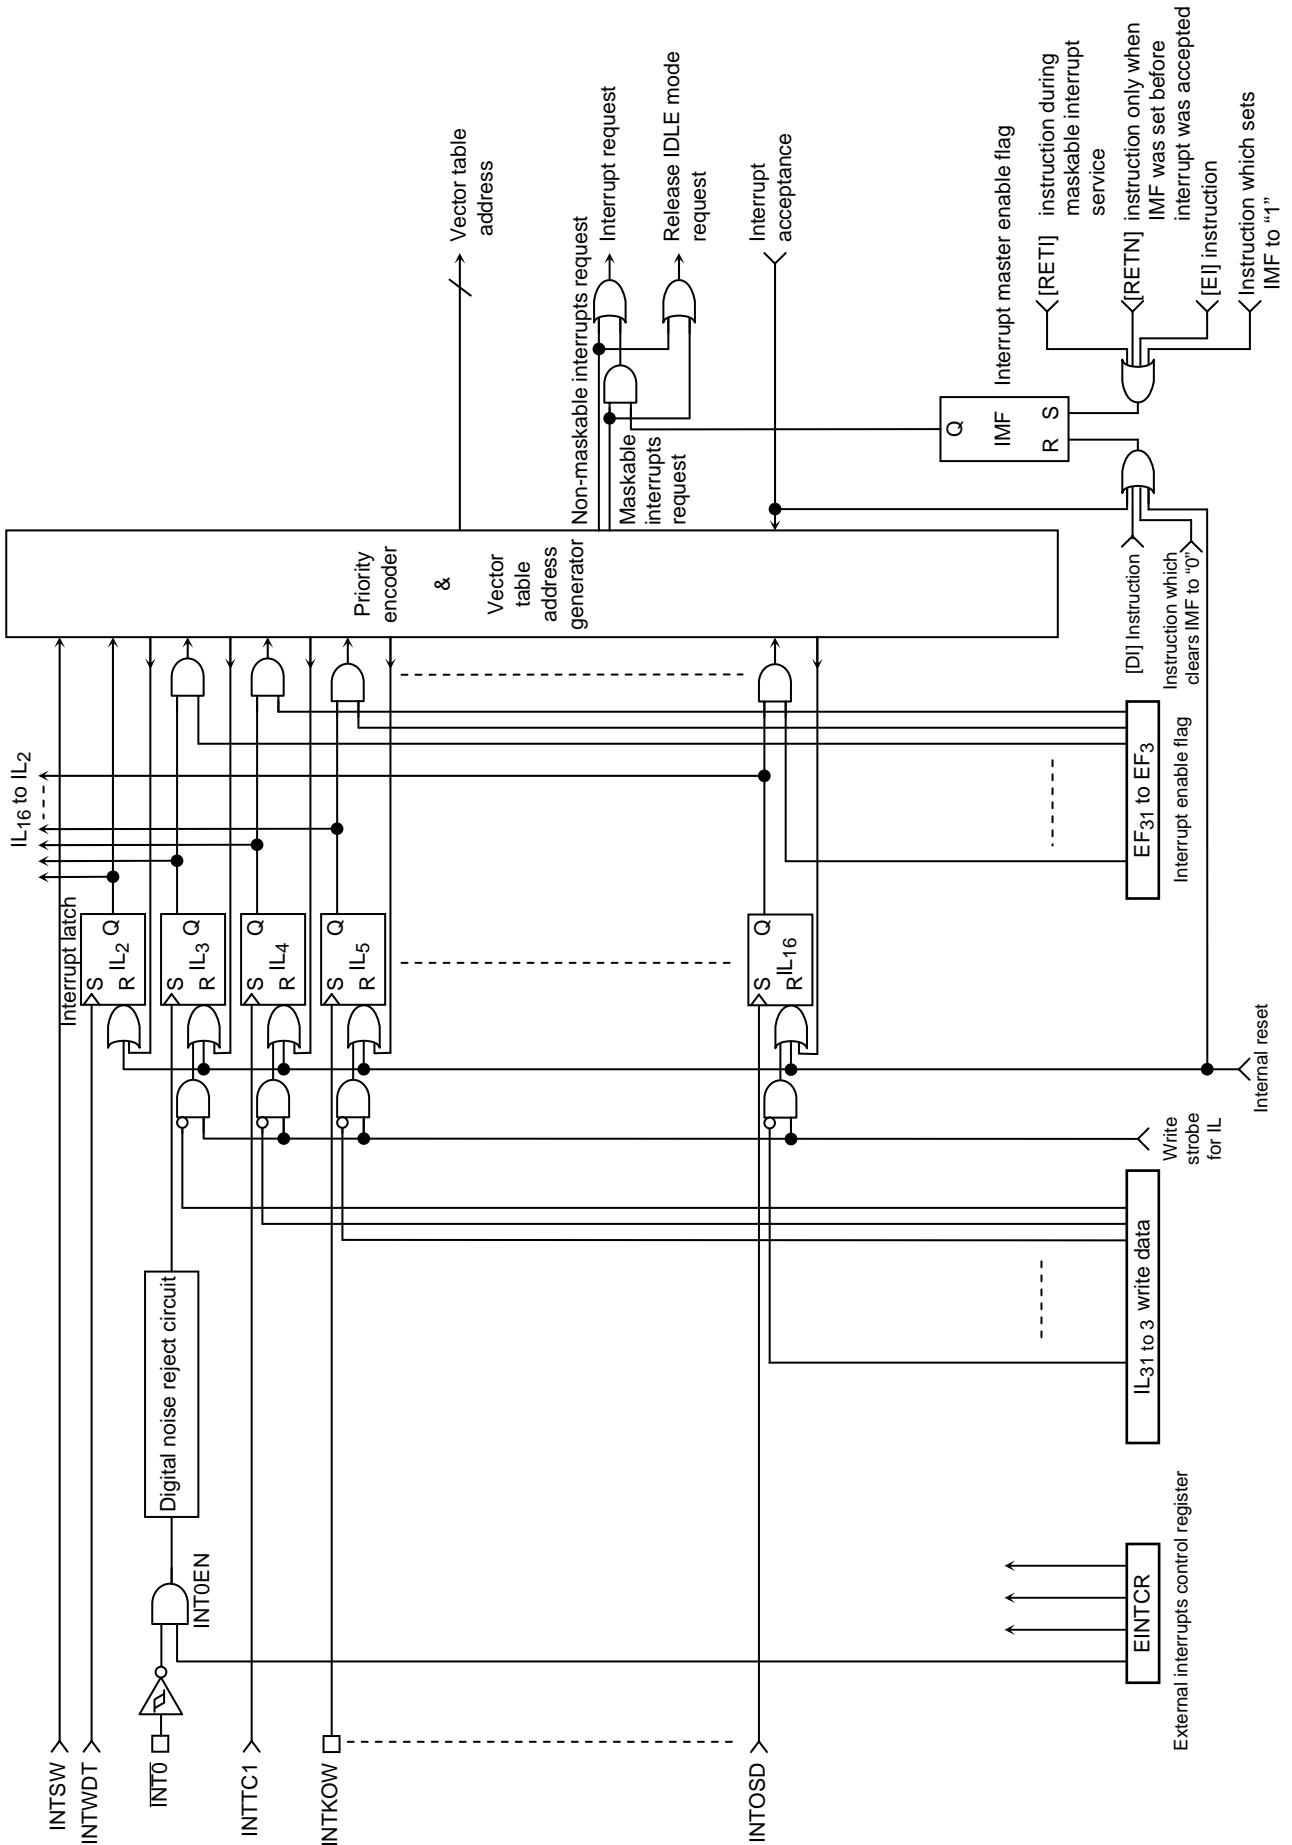

Figure 1.5.1 Interrupt Controller Block Diagram
The interrupt latch is set to “1” when an interrupt request is generated, and requests the CPU to accept the interrupt. The acceptance of maskable interrupts can be selectively enabled and disabled by program using the interrupt master enable flag (IMF) and the individual interrupt enable flags (EF). When two or more interrupts are generated simultaneously, the interrupt is accepted in the highest priority order as determined by the hardware. Figure 1.5.1 shows the interrupt controller.
(1) Interrupt Latches (IL₃₁ to IL₂)